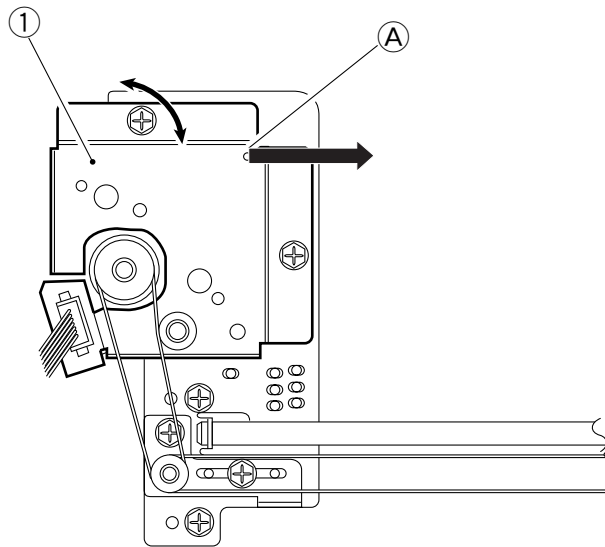

Figure 11-220
Move the lens motor support ① and fit it in place so that the reading of the spring gauge is  $1000 \pm 50\text{g}$  when motor support ① is pulled with a spring gauge in the direction of the arrow at the point A indicated in Figure 11-220.